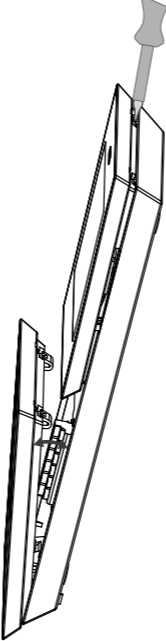

Figure 6: Assembly / Dismantling
- Hook the bottoms of the button cover and display clover (Figure 6) into the the bottom part and push them up until the locking hooks engage.
- To dismantle the covers, unlock the locking hooks (Figure 6) using a screwdriver.